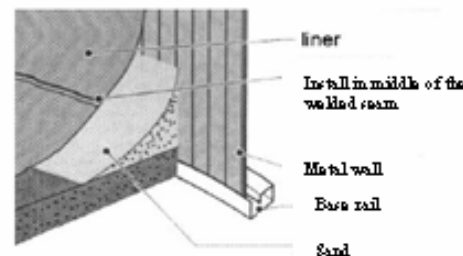

Fig. 4
- Cover the inside border of the circle using clean sand that is free of any stones or foreign objects. Press the sand into a vertical triangular shaped layer that covers the sections and the inside part of the metal wall. The height of this triangular layer must not exceed 7 cm. (fig. 4). In this way, you will prevent the liner from sliding under the metal wall and being damaged due to the pressure and the weight of the water. Along the sides of the pool, each of the buttresses makes the wall scallop inward slightly. The cove at the bottom of the wall will be a little narrower and shorter at these points. Make sure the dimensions of the cove where it passes the buttresses match diagram 17 for a correctly shaped cove.